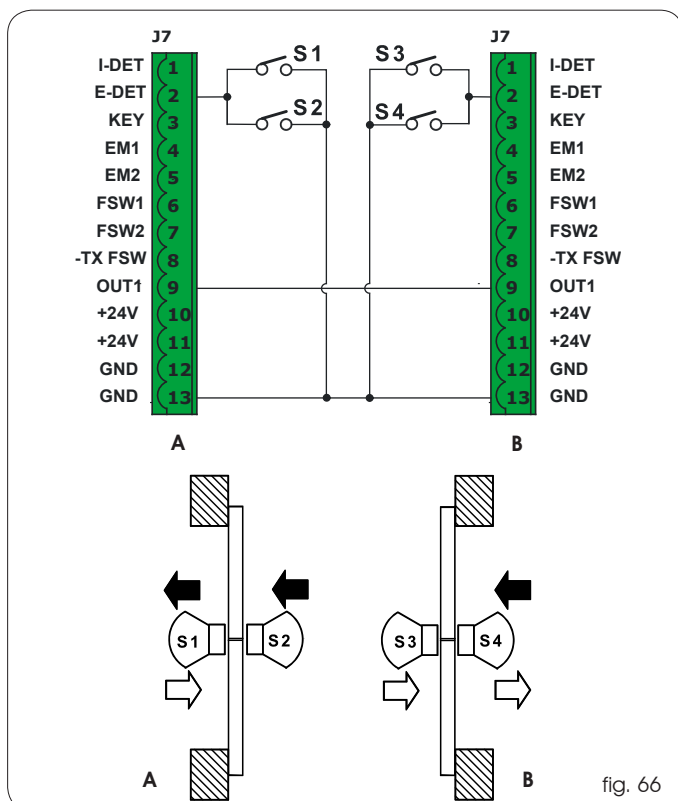

fig. 66
- Make the connections between the J6 terminal boards of the two E140 control boards and the sensors as shown in figure 66.